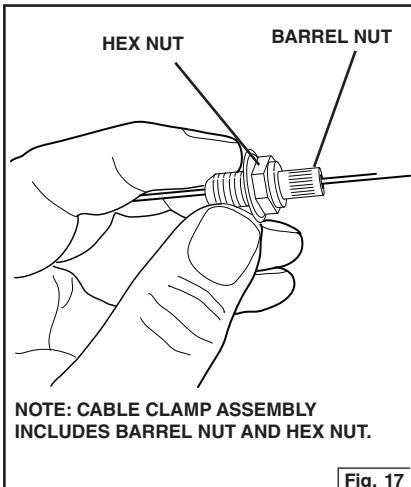

Fig. 17
2. Feed the wire safety cables through the center of the ceiling canopy and along the support arms and insert into the cable supports as shown in Fig. 17. Repeat for each power unit.
- C. Push clamp assembly all the way to the top of the hood while pushing down on barrel nut. Fig. 17.